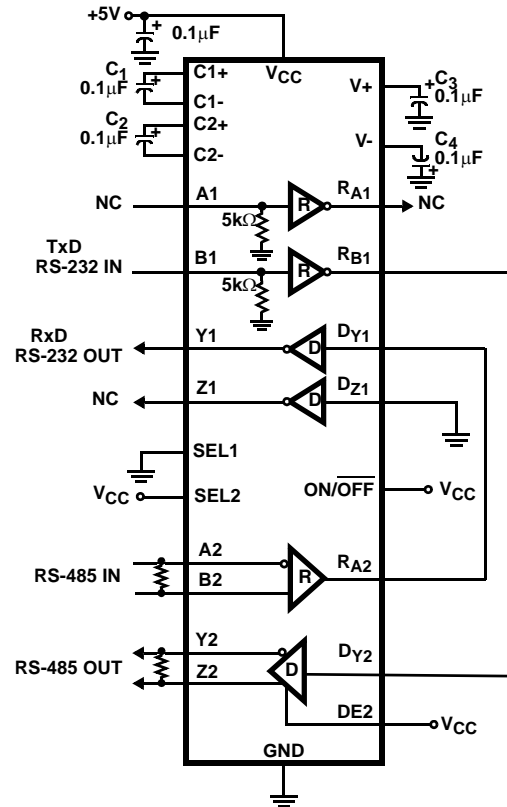

FIGURE 1. SINGLE IC RS-232 TO RS-485 CONVERTER
This two port dual protocol IC is ideal for implementing a two wire (RxD and TxD) RS-232 to RS-485 converter, as shown in Figure 1. To evaluate this circuit using the eval board (starting with the default configuration): install the "B1" (4) jumper to connect the 50 Ω termination on the input; remove the "DY1 (DZ/SLEW)" (23) and "DY2" (20) jumpers; connect a wire from the "RB1 (RA)" test point to the DY2 test point ("TP19"); connect a wire from the "RA2 (NC)" test point to the DY1 test point ("TP20"); connect the port 2 "external loopback" jumpers (9 and 10), and move the "SPA" (16) and "SPB" (17) jumpers to the "LOW" positions to set the RS-485 Tx speed to the medium data rate option. Note that the RS-232 Tx output (Y1) is unloaded in this configuration, while the RS-485 Tx output drives a double terminated load (R13 and R14). The RS-232 output can be resistively loaded by looping it back to the "A1" input via the "A1/Y1_LB" (5) jumper, and can be capacitively loaded by soldering the desired load value in position C4. To add a differential capacitive load to the RS-485 driver, simply solder the capacitor on top of termination resistor R13, or solder a capacitor across the C3 and C5 pads that connect to Y2 and Z2, respectively.